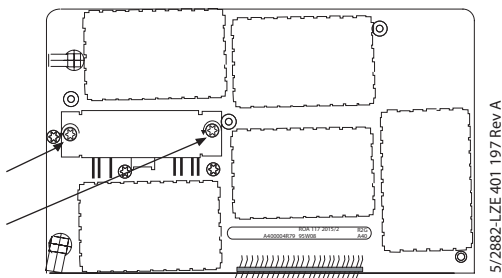

Figure 12 Removing two screws.
7. Unscrew the two screws as per Figure 12.